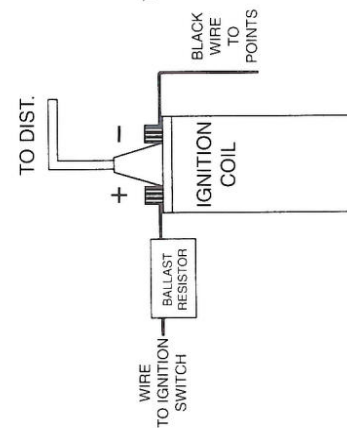

FIGURE 2
5. The red wire from the Ignitor must be connected to the positive (+) side of the coil, or a 12 volt switching power source. The black wire must be connected to the negative (-) side of the coil. (See Figure 2 & 3).
13. For installations that do not use a primary ballast resistor, connect the *Ignitor* red wire to the positive (+) side of the ignition coil. (See Figure 2).